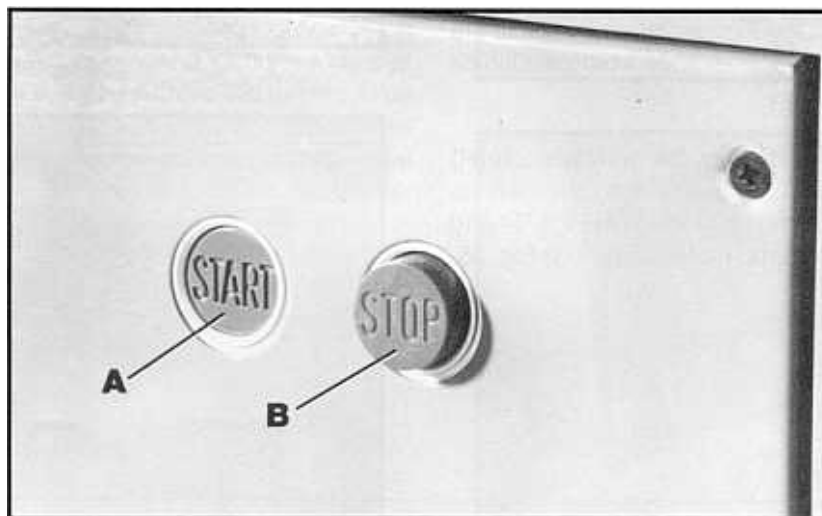

Fig. 31
The start and stop buttons are conveniently located on the front of the headstock cabinet. To turn the lathe "ON" push the start button (A) Fig. 31, and to turn the lathe "OFF" push the large stop button (B).